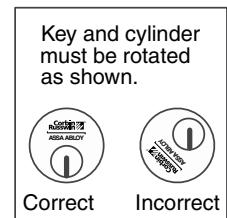

Figure 17
- Cylinder must be oriented correctly. (Figure 17)